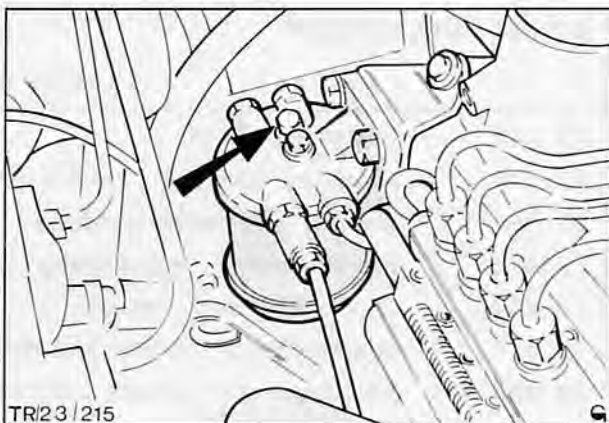

Fig. 34. Fuel filter bleed bolt
3. Position drain tray beneath fuel filter and loosen filter bleed bolt by approximately half a turn, Fig. 34.